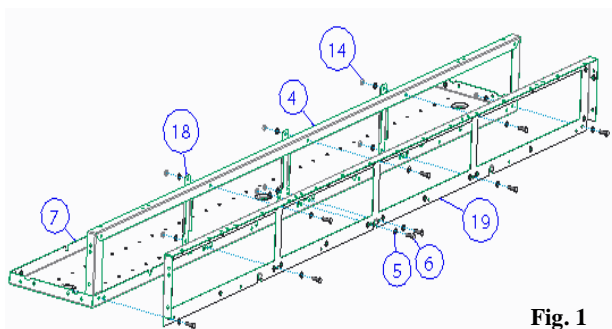

Fig. 1
- Assembling the back plate and side rails to the Main Panel board by Refer to Fig. 1 & Fig. 6 for details.